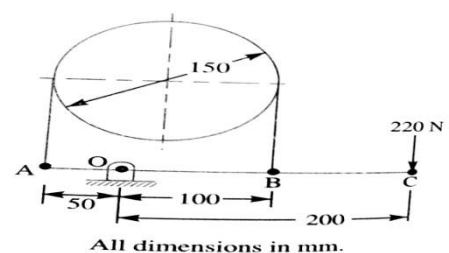

Fig 1.1
- (c) A Differential band brake has a force of 220 N applied at the end of a lever s sho0wn in Fig .1.1. The coefficient of friction between the band and the drum is 0.4. The angle of lap is 180°. Find: 1.The maximum and minimum force in the band when a clockwise torque of 450 N-m is applied to the drum; and 2. The maximum torque that the brake may sustain for counter clockwise rotation of drum. **07**